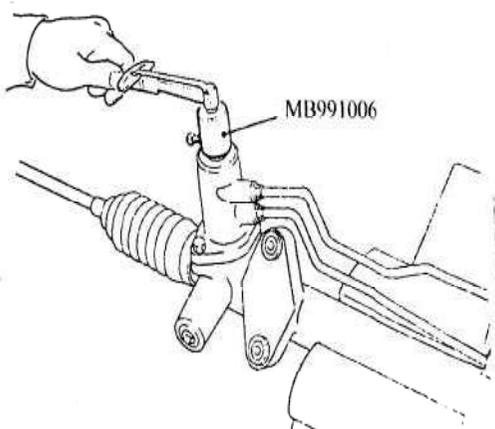

Fig 17-1
- (5) After checking fourth item, if the play exceeds the standard value, remove steering gear box and check total pinion torque. (Refer to fig 17-1).